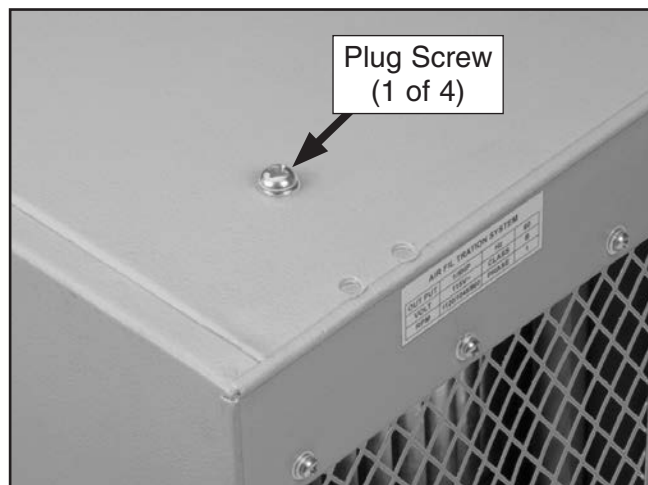

Figure 12. Plug screw.
1. Install (4) chains, cables, or steel strapping lines to ceiling from capable ceiling joists or supports so lines hang 15¼" left-to-right and 24½" front-to-rear and air filter hangs 7' above floor when finished.
2. Remove (4) plug screws (see **Figure 12**).